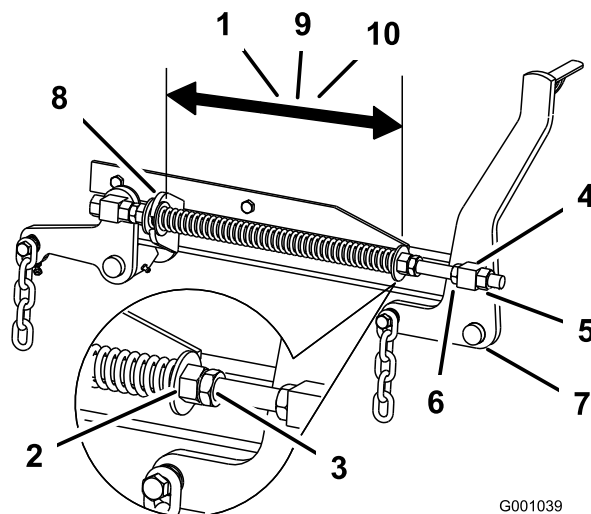

Figure 70
- Check the distance between the two large washers, it needs to be 11-1/8 inches (28.2 cm) for 52 inch mower decks, 10-1/2 inches (26.7 cm) for 60 inch mower decks or 11-1/2 inches (29.2 cm) for 72 inch mower decks (Figure 70).
- Adjust this distance, by loosening the spring jam nut and turning the nut in front of each spring (Figure 70). Turning the nut clockwise will shorten the spring; counter-clockwise will lengthen the spring.
- Lock the nut into position by tightening the spring jam nut (Figure 70).